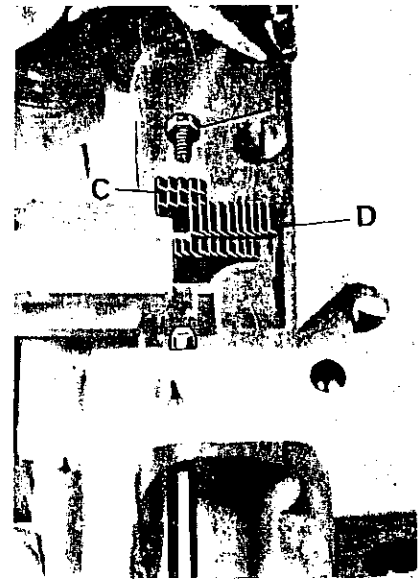

fig. 14
## 9. Fitting and adjusting feed dogs (figs. 14 and 15)
- Fit the rear feed dogs C and D (fig. 14) and match the feed dog slides.